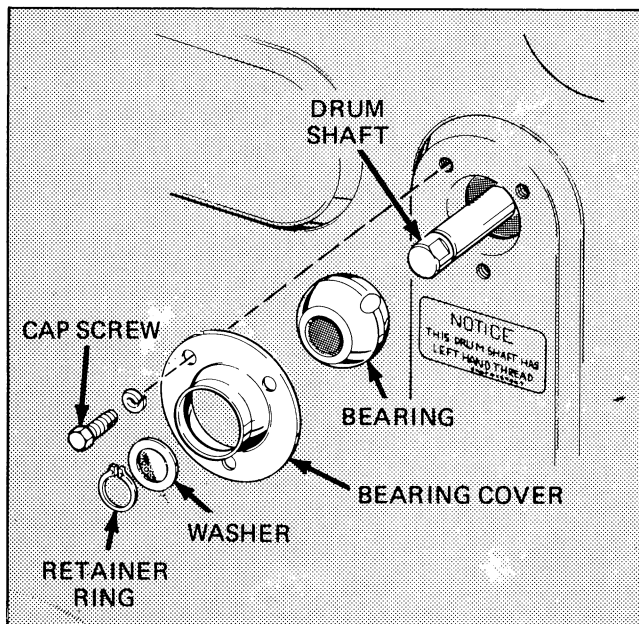

Figure 40A
DRUM SHAFT BEARING *Figure 40A (LATE STYLE)*
3. Remove retaining ring (TRU ARC®) and washer from drum shaft. (Figure 40A)
4. Remove three cap screws and lock washers holding bearing retainer to rear frame, and remove bearing retainer and bearing from drum shaft. (Figure 40A)